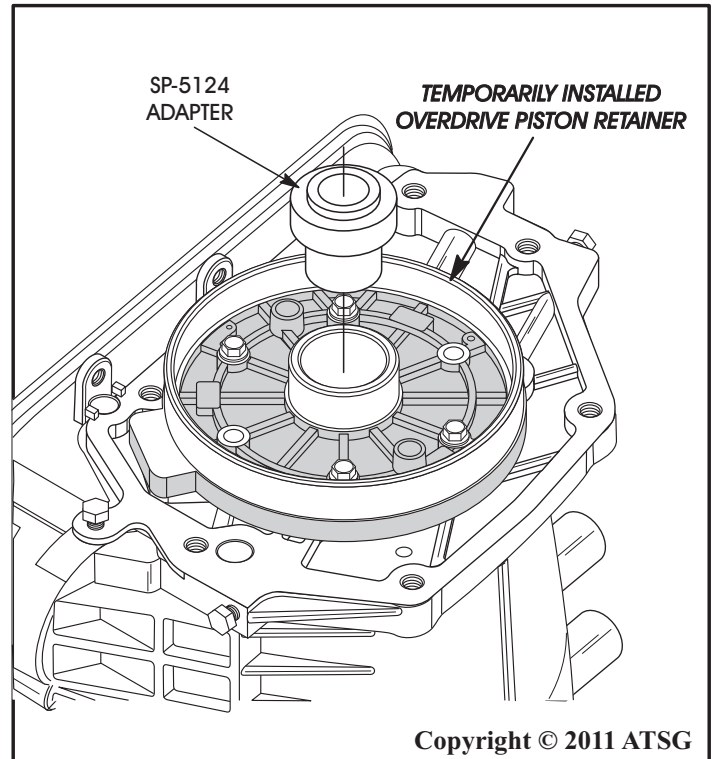

Figure 90
6. After acquiring special tool C-3863-A, insert the SP-5124 adapter in the overdrive piston retainer, as shown in Figure 90.